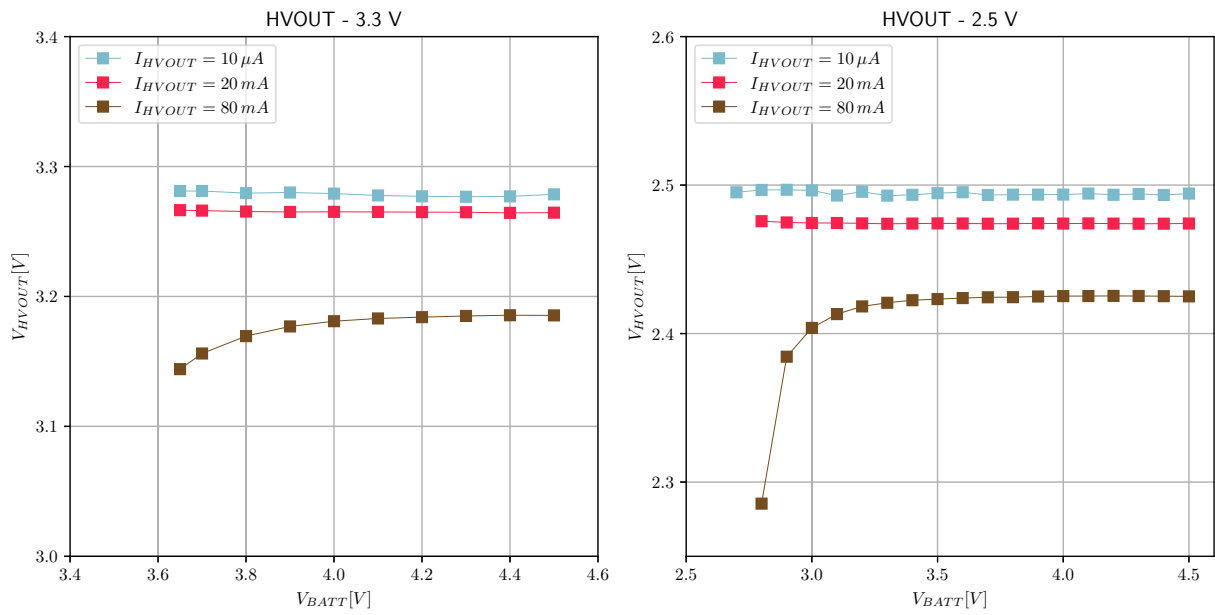
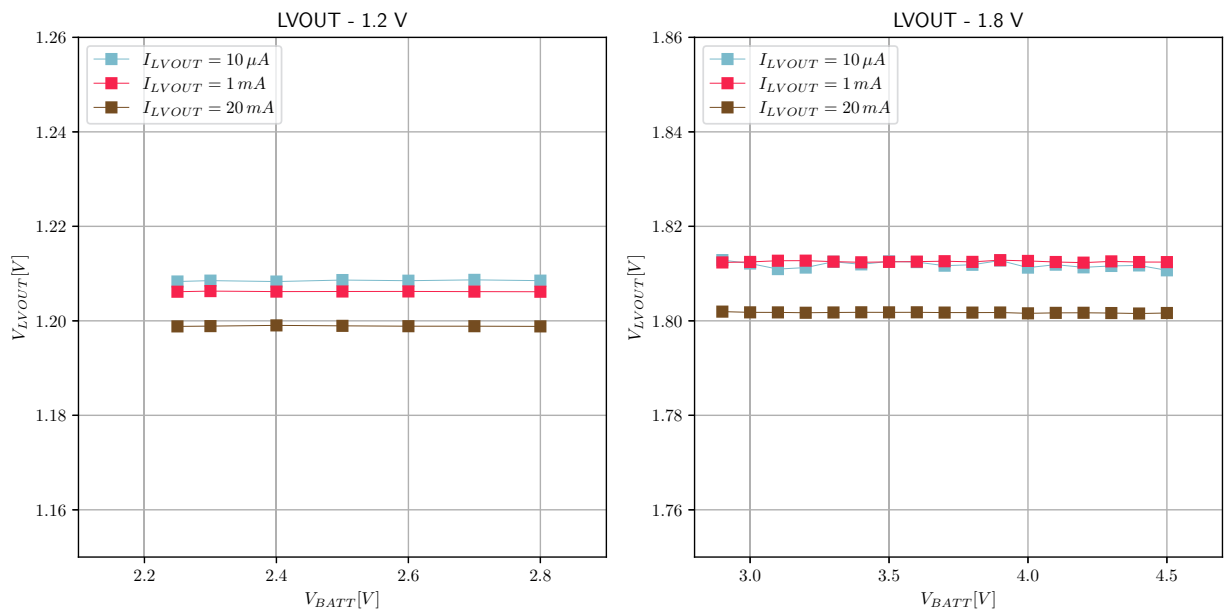

Figure 12: HVOUT at 3.3 V and 2.5 V
Figure 13: LVOUT at 1.2 V and 1.8 V
- Measure the voltage on **HVOUT** / **LVOUT** to observe the LDOs voltage regulation. Typical results are shown on Figure 12 and Figure 13.